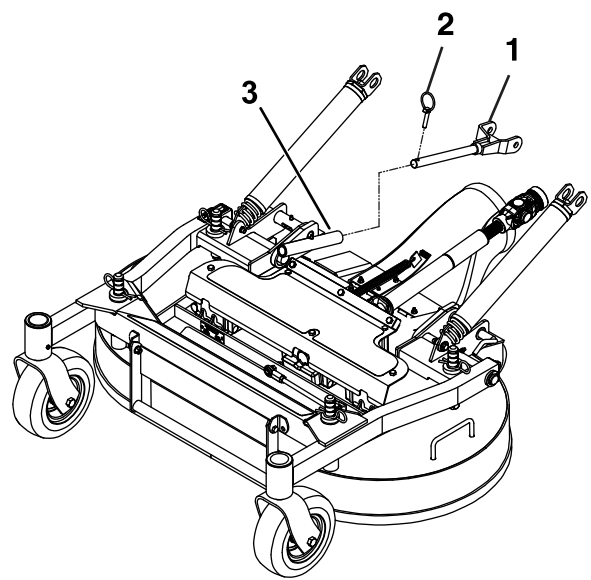

Figure 79
7. Remove the lynch pins at the front of the push arms on both sides of the machine (Figure 79).
7. Secure the push arms with the lynch pins on the left and right sides of the machine (Figure 79).